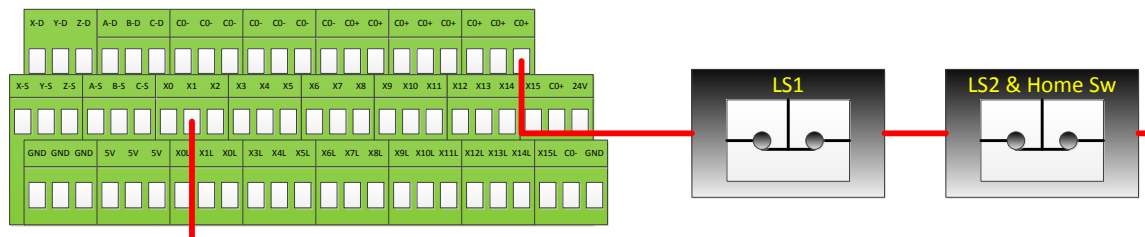

FIGURE 24 LIMIT SWITCHES IN SERIES
- Wire the two switches normally closed in series as shown in Figure 24.